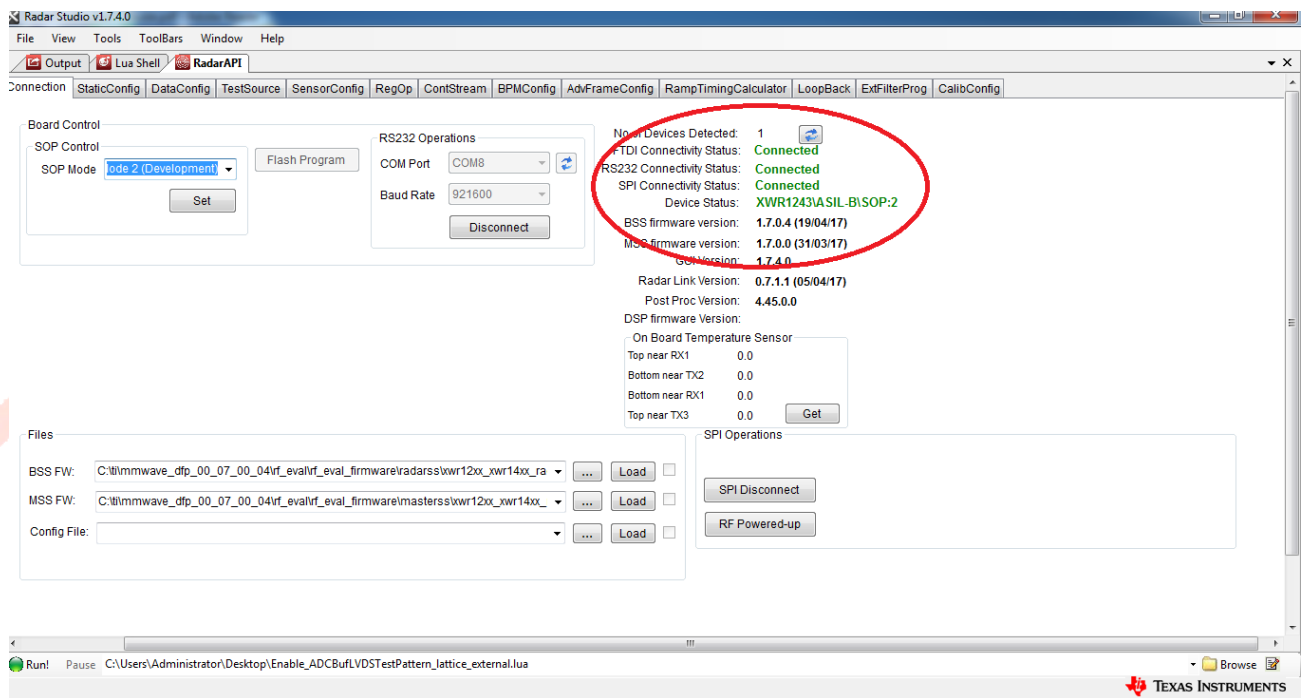

Figure 19: Radar Studio Connection Settings
- Click "SPI Connect & RF Power-up" buttons and Check the connectivity completion as per below Figure 19,